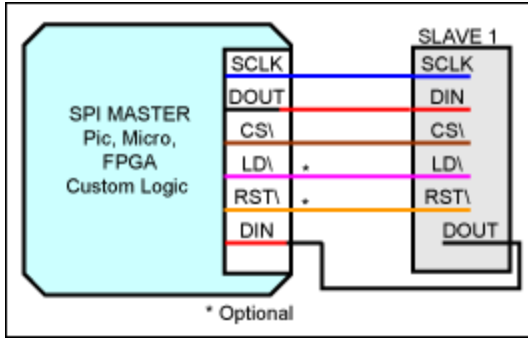

Figure 4. Single master/slave SPI interface.
1. One master and one slave, as shown in **Figure 4**.